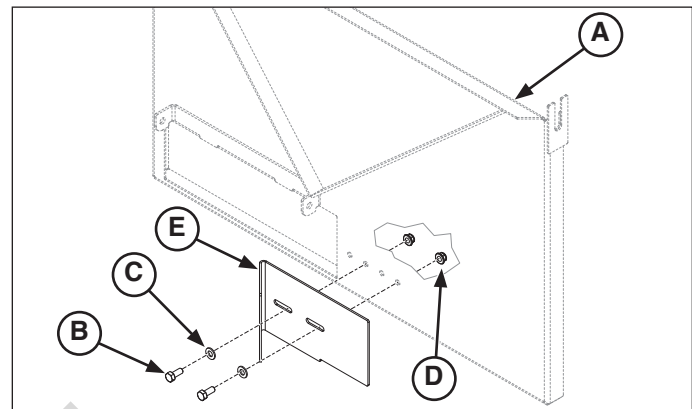

Figure 4. Assembling the Bagger Mount
1. Install two (2) 5/16" bolts (B, Figure 4) with 5/16" washers (C) through the block off plate (E) then through the bagger mount (A). Loosely secure with two (2) 5/16" nuts (D).
4. Remove the quick disconnect rod (**F, Figure 4**).